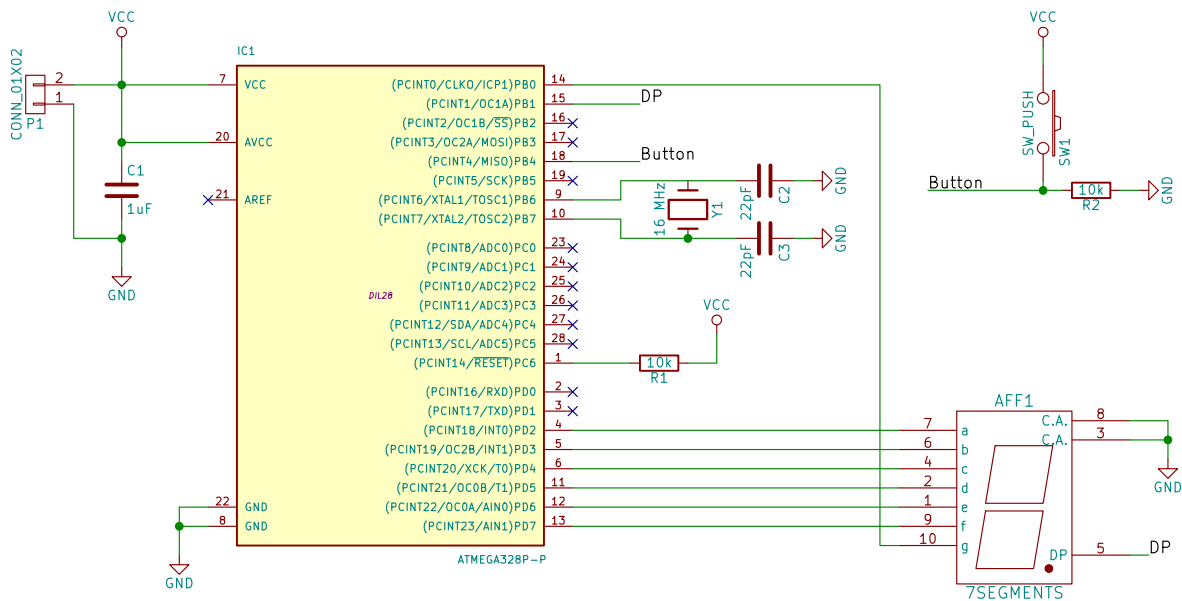

Figure 4: Completed schematic drawing of Example 1 circuit.
12. The final schematic should look like Fig. 4.